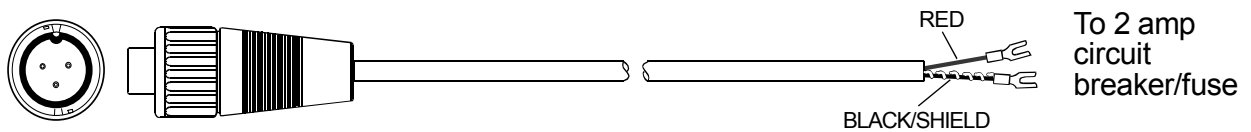

Figure 7: C98-20PW Power Cable
- ❑ Using the wire cutters and wire strippers, prepare the end of the cable as necessary for your installation (**Figure 7**).